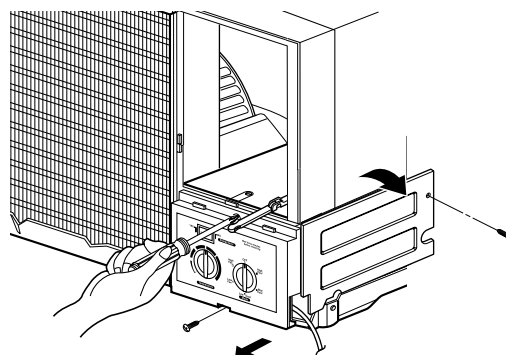

Figure 3
8. Remove the 2 screws which fasten the control box. (See Figure 3)
10. Re-install the components by referring to the removal procedure, above. (See Figure 3)